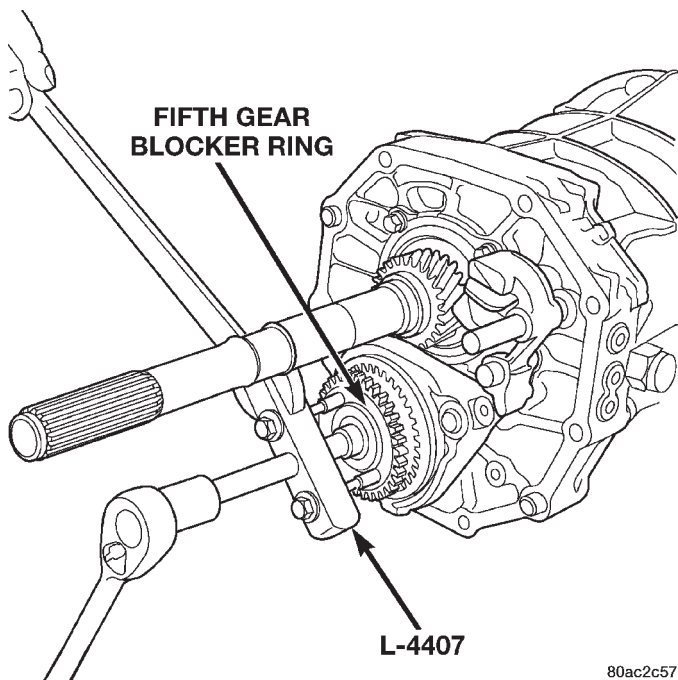

Fig. 56 Remove Fifth Gear Blocker Ring
- (8) Remove fifth gear blocker ring from countershaft assembly with Puller L-4407 (Fig. 56).